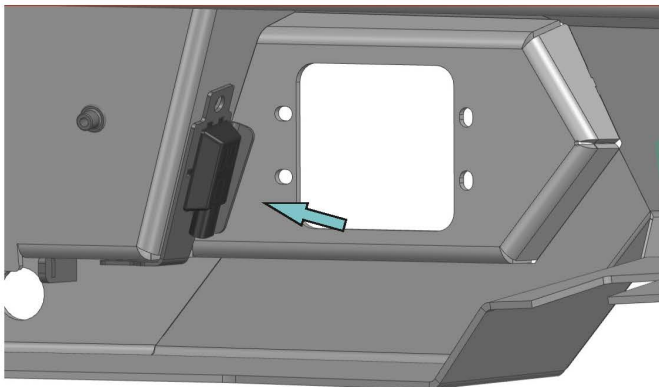

Fig. 23
23. Install brackets for license plate lights (item 3,4) with LED lights into the bumper body (item 1) using screws M6 and washers 6 (item A, E) (Fig.23,24).